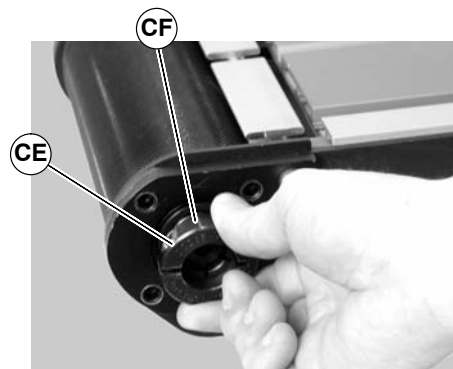
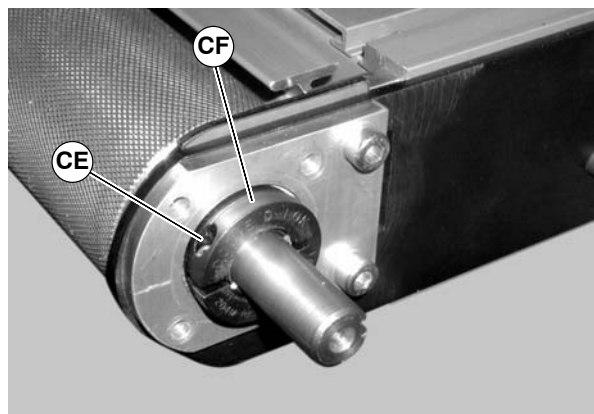

Figure 68
Figure 69
4. Loosen the bearing collar set screw (CE of Figure 68) and remove bearing collar (CF). Repeat on drive shaft side of pulley (CE and CF of Figure 69).